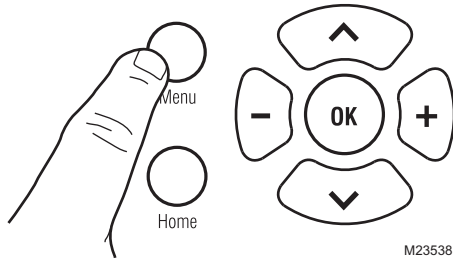
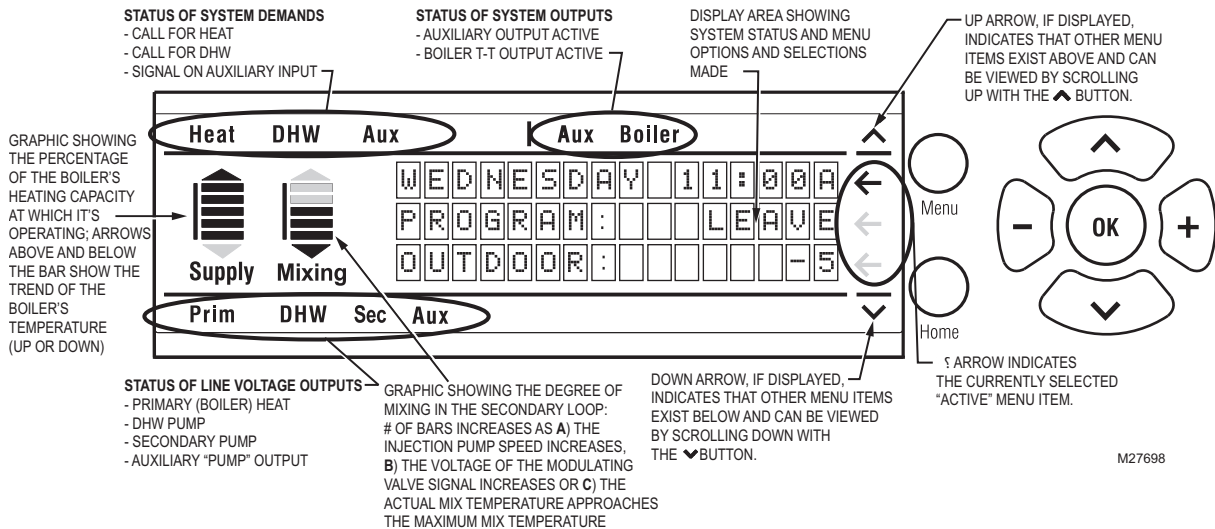

Fig. 21. AQ252 keypad.
Fig. 22. LCD display and keypad layout.
The AQ252 User Interface consists of an LCD screen (16 characters by 3 rows) and a 7-button keypad for navigating the menus, as illustrated in Fig. 22. Fig. 21 provides an isolated view of the keypad.
The layout of the display is logical and simple to navigate. The information displays so that the installer can see at a glance the system's operating temperatures, as well as the status of the system equipment, such as a Call for heat, DHW pump On, Boiler T-T terminals energized, etc. In addition, all system information displays in simple, straightforward English for quick system diagnosis. Fig. 22 illustrates the layout and features of the LCD display panel and keypad.
Program the AQ252 by using the keypad and LCD display to select parameters from the User and Installer menus. Refer to Fig. 22 on page 17 for an illustration of the LCD screen and keypad.
- When TEST OUTPUTS is selected, the AQ252 LCD displays a list of all outputs that can be tested. To select an output to test, position the indicator arrow (?) beside that output and press the + button to activate the output's relay. As each output is activated, a word icon for that output is displayed at the top or bottom of the LCD display (refer to Fig. 22 on page 17). The test routine activates the output relay until the "–" button is pressed to turn off that output.
NOTE: See Fig. 22 on page 17 for the demands and outputs display areas on the LCD.